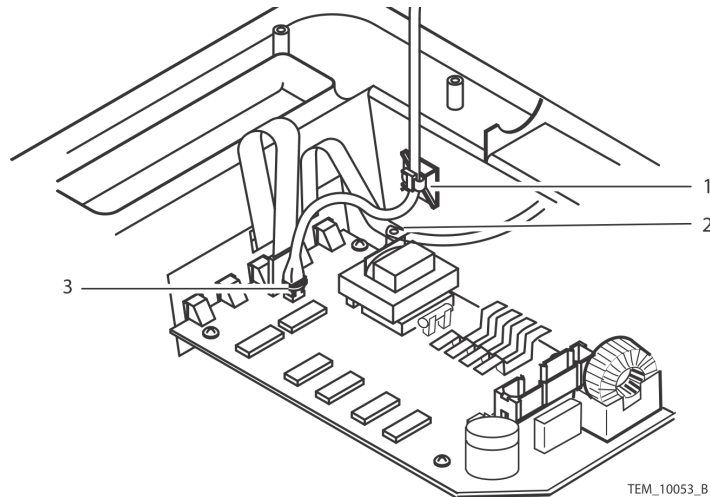

Figure 78. Cable Connections
40. Connect the thermistor cable to the Control PCB. See Figure 78, item 3.
41. Fasten a cable tie around the thermistor cable connector. See Figure 78, item 3.
42. Connect the key pad ground strap and the blower ground wire. Tighten the screw to 4 to 6 in/lbs (10 to 15 cm/kg). See Figure 78, item 2.
43. Install the cable tie around the thermistor cable. See Figure 78, item 1.